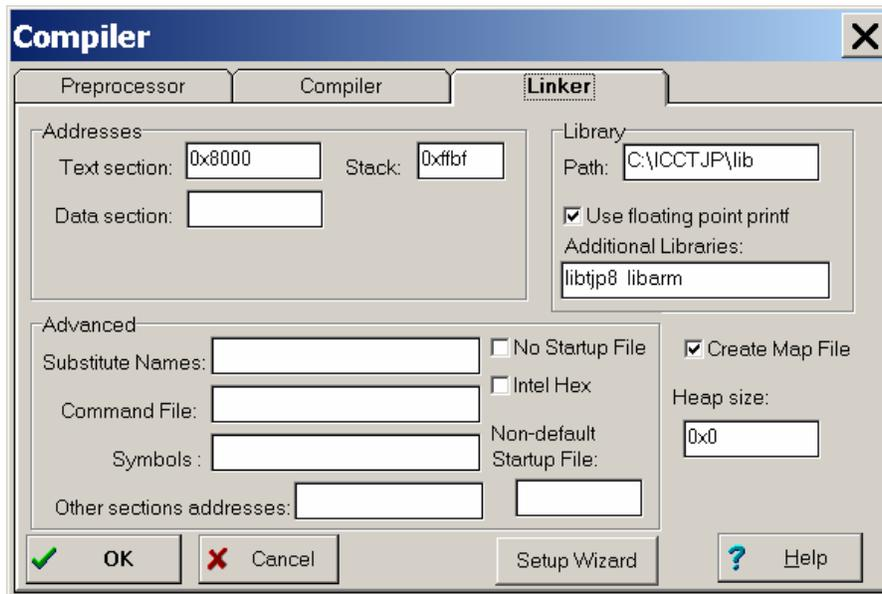

Figure 13. Standard Linker settings for the MekArm™.
5. Select the Linker tag to open the Linker screen Figure 13.
6. Fill in the Linker text boxes as shown in Figure 13.